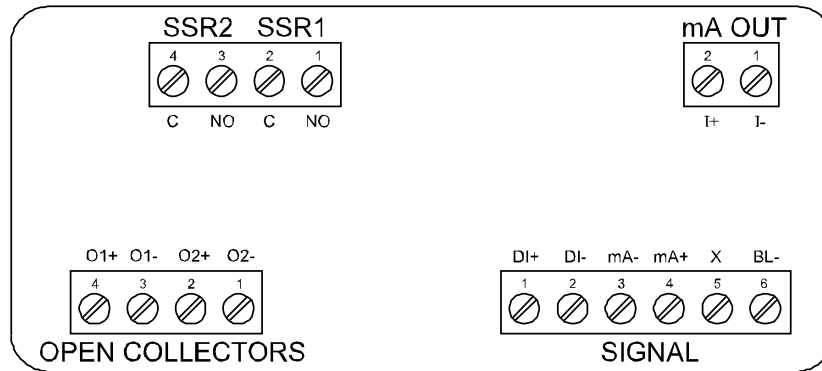

Figure 4. Connector Labeling for Fully Loaded Meter
Signal connections are made to a six-terminal connector labeled SIGNAL on Figure 4. The following figures show a 4-20 mA current loop connected to the meter. The first figure shows the connection with the backlight disabled and the second shows the connection with the backlight enabled (the backlight can also be disabled in the system menu). The meter is powered by the 4-20 mA current loop. There are no switches or jumpers to set up for the input. Setup and programming is performed through the front panel buttons or PC-based software.
Relay connections are made to a four-terminal connector labeled SSR1 and SSR2 in Figure 4. Each relay's C terminal is common only to the normally open (NO) contact of the corresponding relay.